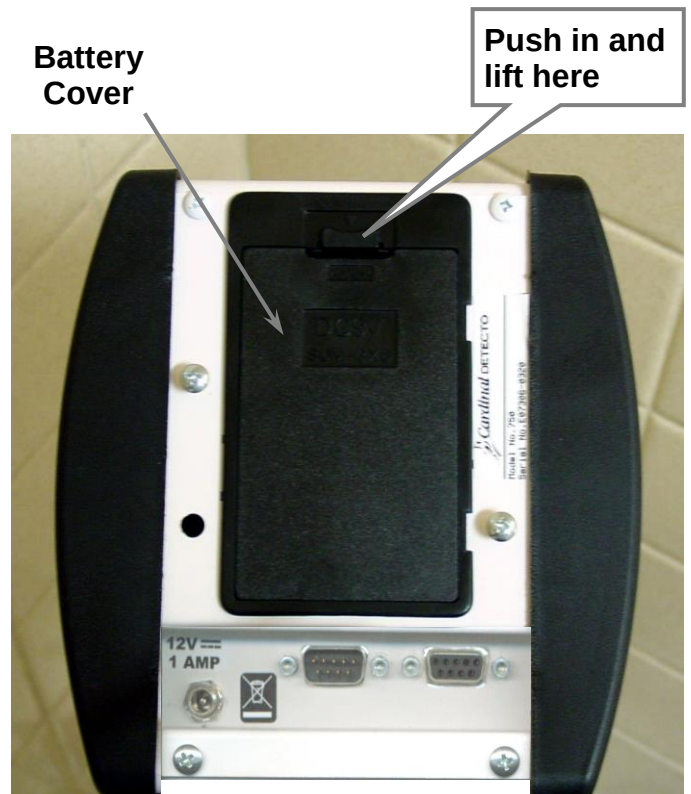

Figure No. 6
5. To install or replace the batteries, first remove the battery holder cover by pushing in on the tab and lifting it up. Refer to Figure No. 6.